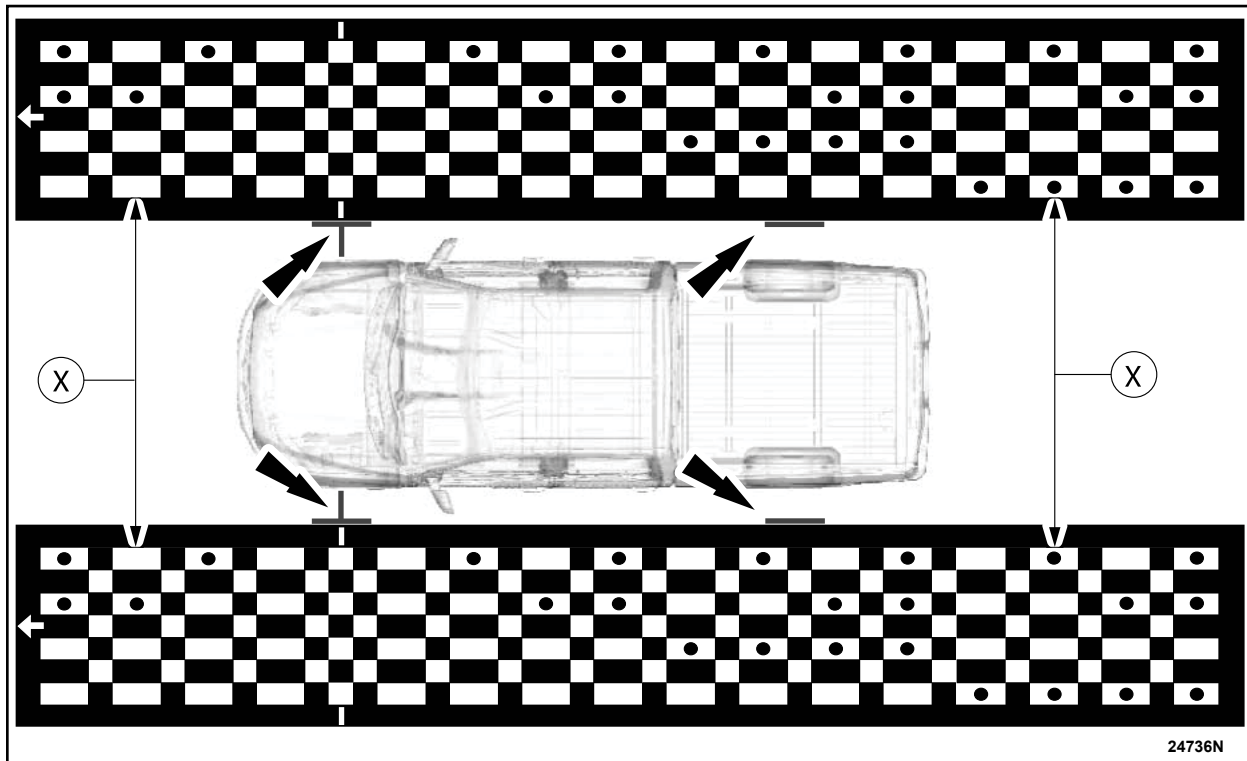

FIGURE 6
10. Position the calibration mats on both sides of the vehicle. See Figure 6.